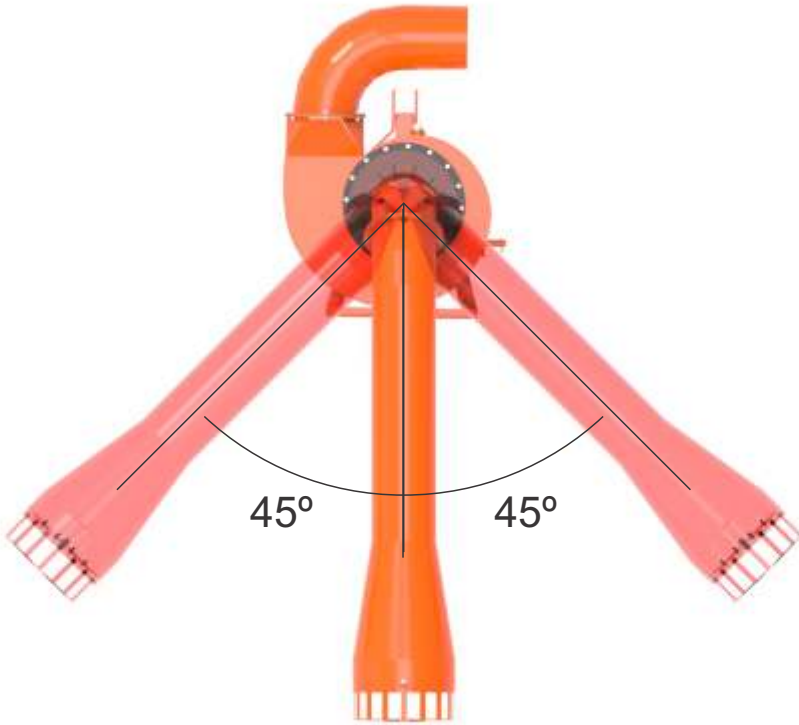

Figure 05.
The leaning angle **must not exceed 45°**, as shown in figure 05 below, as the check valve (8) required this leaning angle to perform its function. The check valve must be completely submerged such that air does not enter the piping.